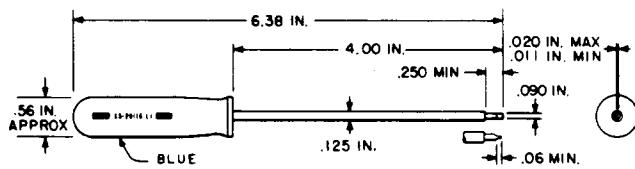

Fig. 18—KS-20116, L1, Adjuster
2.19 KS-20116, L1: The KS-20116, L1, adjuster (Fig. 18) is for use in adjusting the 3-type FM terminals with the J68383J test sets.